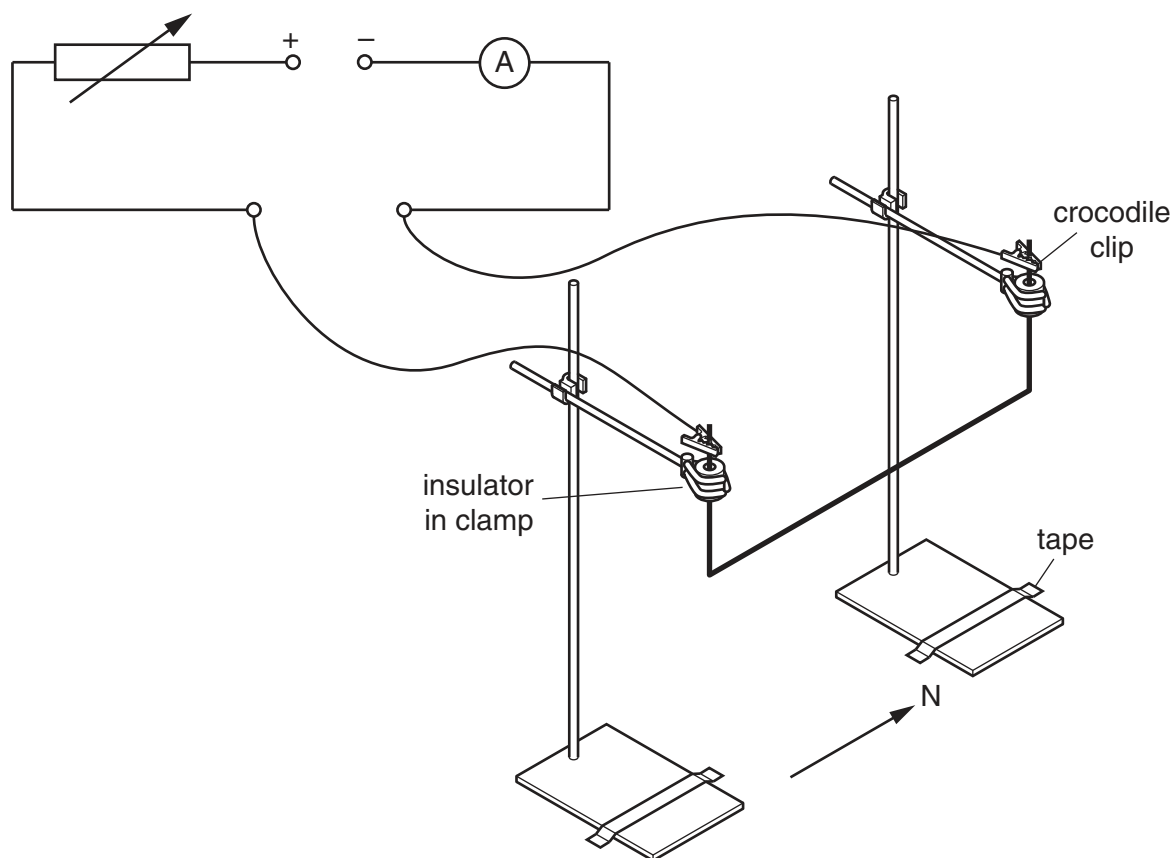

Fig. 2.3
- 3 The apparatus should be set up as shown in Fig. 2.3, with no current in the wire. The rheostat should be set to its **maximum** resistance position. The stands should be fixed (e.g. with adhesive tape) in a position such that the horizontal copper wire is approximately aligned in the north-south direction.